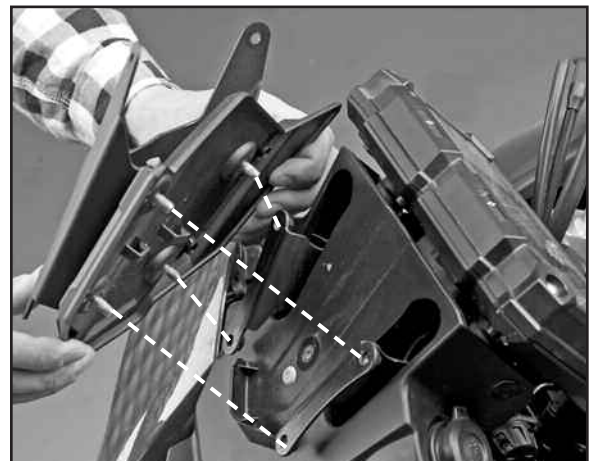

Figure 5
4. Loosely Install the Bracket and Frame Assembly to the motorcycle using the M6 Truss Screws (9). (**4mm Hex Key**) **Figure 5 and 6**